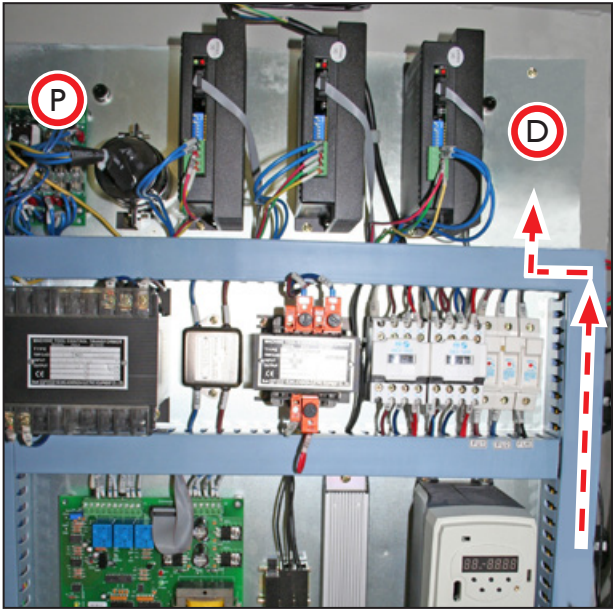
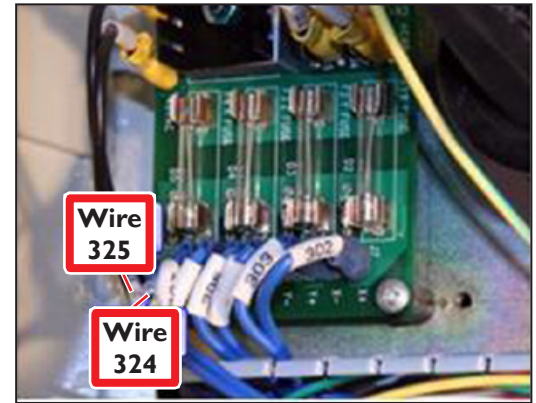
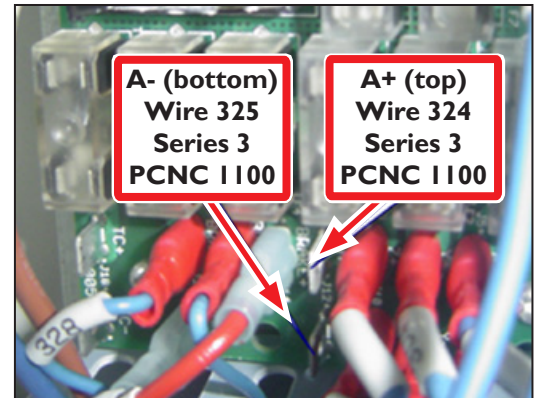
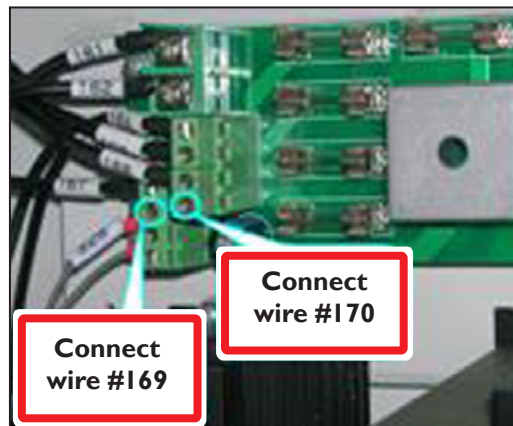

Figure 3
Figure 9
Figure 10
Figure 11
- 2. Identify location *D* in electrical cabinet as shown in **Figure 3** to install 4th axis drive.
2. Route wires 320-323 from Interface Connector through wire troughs and to location *D* as shown in **Figure 3**.
1. Plug crimp connector end of wire 325 to connector marked –A on the DC Bus Board (at location *P* in **Figure 3**); plug crimp connector end of wire 324 to the connector marked +A (see **Figure 9** and **Figure 10**). Refer to *PCNC 1100 Wiring Overview* section later in this document for wire labeling details.
2. Route loose end of power wire to drive (location *D* in **Figure 3**).
1. Plug crimp connector end of wire 170 to connector marked –A on the DC Bus Board (at location *P* in **Figure 3**); plug crimp connector end of wire 169 to the connector marked +A (see **Figure 11** and **Figure 12**). Refer to *PCNC 1100 Wiring Overview* section later in this document for wire labeling details.
2. Route loose end of power wire to drive (at location *D* in **Figure 3**).